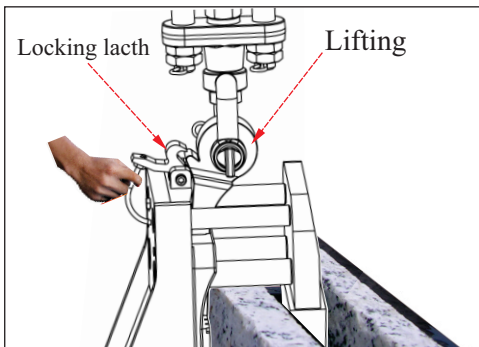
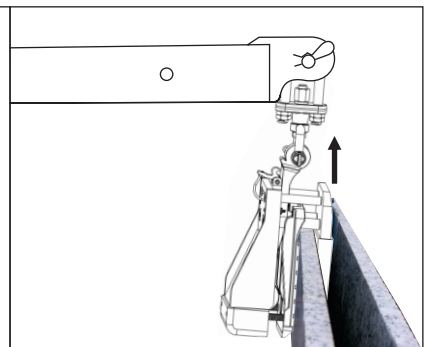

Figure 3.2
Figure 3.3
- Unlock the locking latch (Figure 3.2) then pull the lifting up to clamp the slab tightly (Figure 3.3).